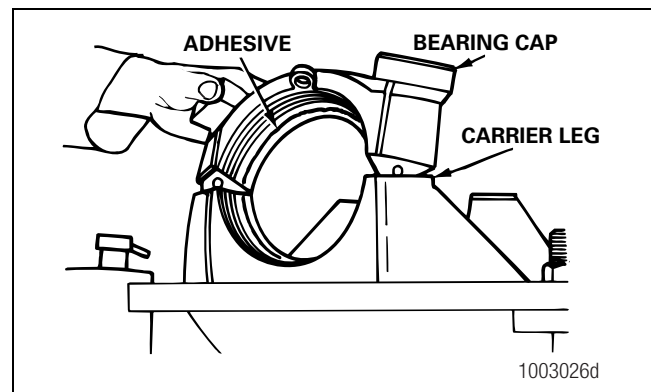

Figure 5.31
4. Apply Meritor specification 2297-T-4180 adhesive evenly in the bearing bores of the carrier legs and bearing caps. Cover the surfaces completely. The adhesive must not contact the adjusting ring threads. Figure 5.31. Refer to Section 4.